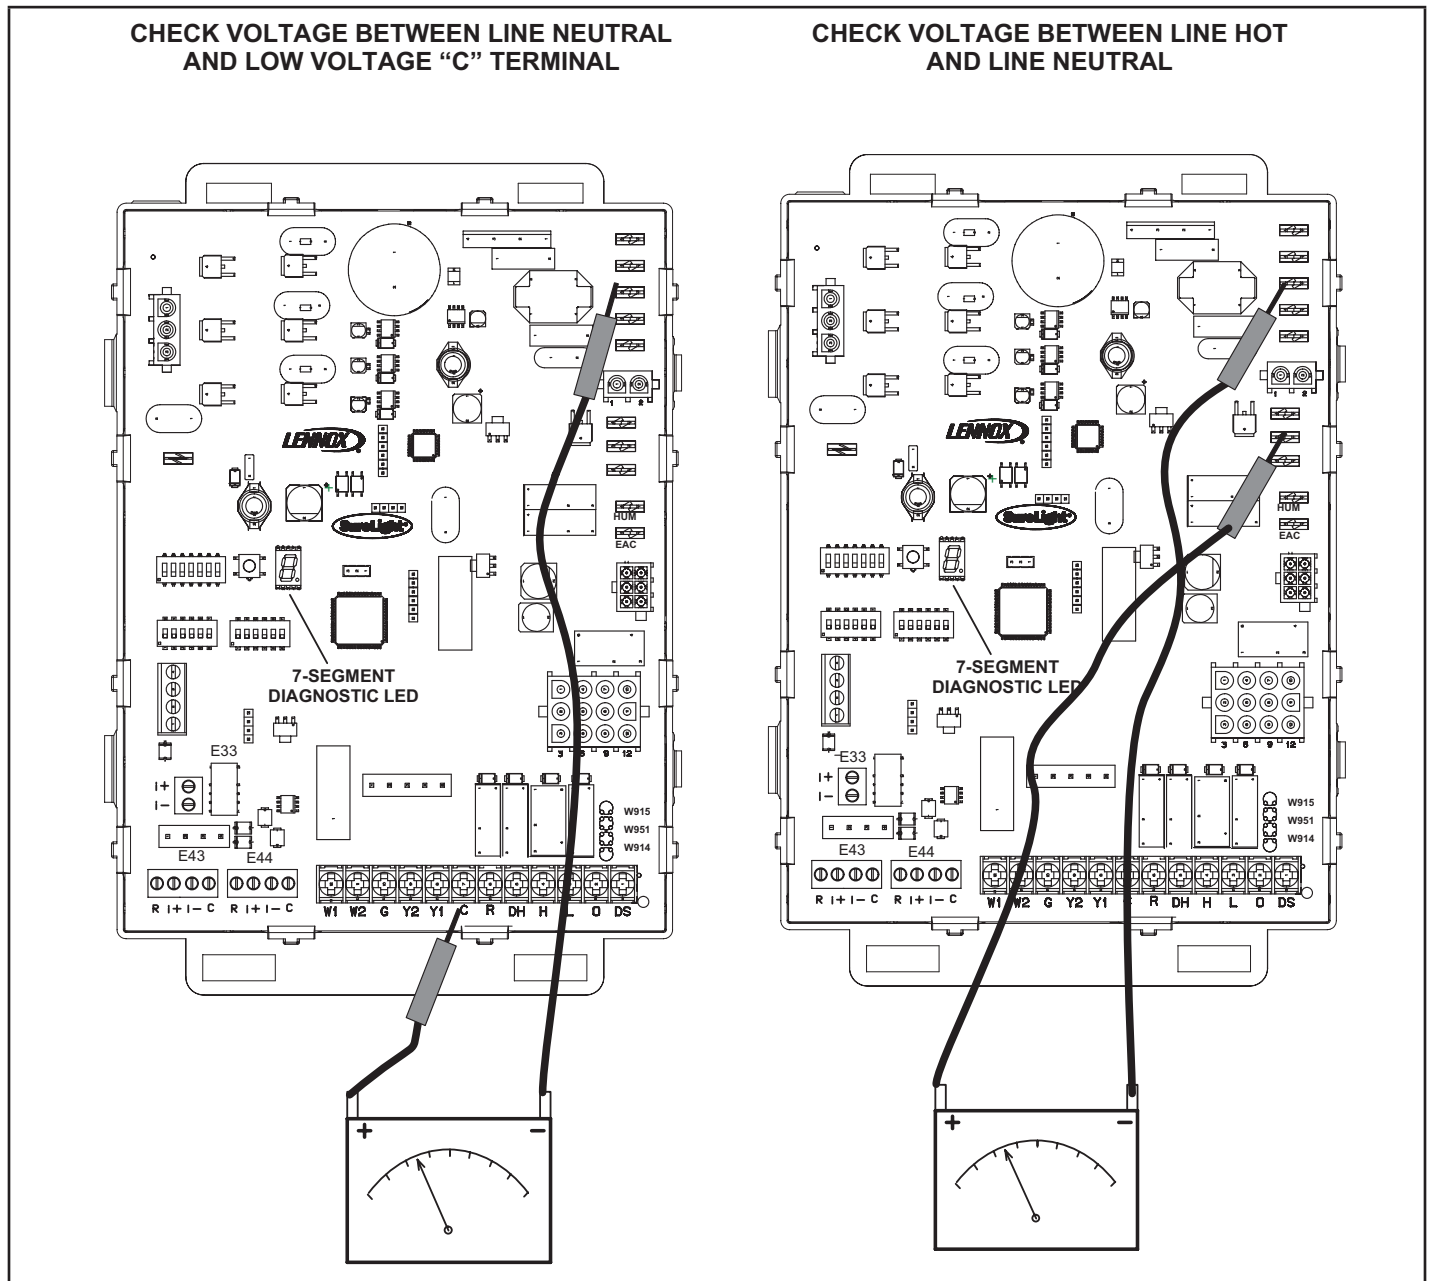

FIGURE 53
- 1 - Measure the AC voltage between Line Neutral (spade terminals) and "C" terminal (low voltage terminal block) on the integrated control. See FIGURE 53. A wide variation in the voltage between Line Neutral and "C" as a function of load indicates a poor or partial ground. Compare the readings to TABLE 34. If the readings exceed the maximum shown in the table, make repairs before operating the furnace.
- 2 - In addition, measure the AC voltage from Line Hot to Line Neutral (spade terminals) on the integrated control. See FIGURE 53. This voltage should be in the range of 97 to 132 Vac.